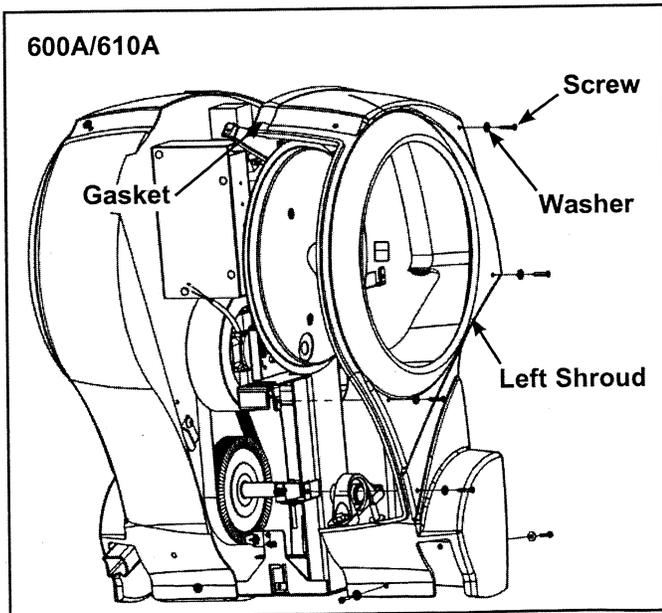

Figure 7
- A. Remove the six screws and washers securing left shroud in place. See Figure 7.
- A. Place left shroud in position in the rubber gasket. See Figure 7.